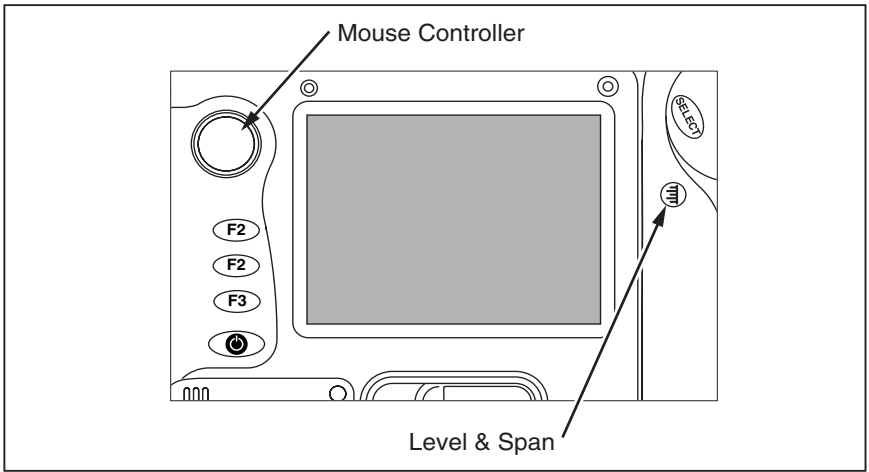

Figure 1-7. Setting the Fusion Blend Level
2. While continuing to press , use the MOUSE controller shown in Figure 1-7 to slide the IR Fusion blend level bar in the control box to the desired setting.